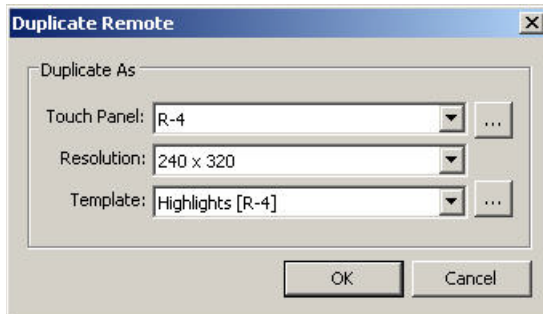

FIG. 142 Duplicate Remote dialog
2. Select **Edit > Duplicate** (or right-click on the selected R-4 Remote and select **Duplicate** from the System Diagram context menu). This action invokes the *Duplicate Remote* dialog (FIG. 142)..